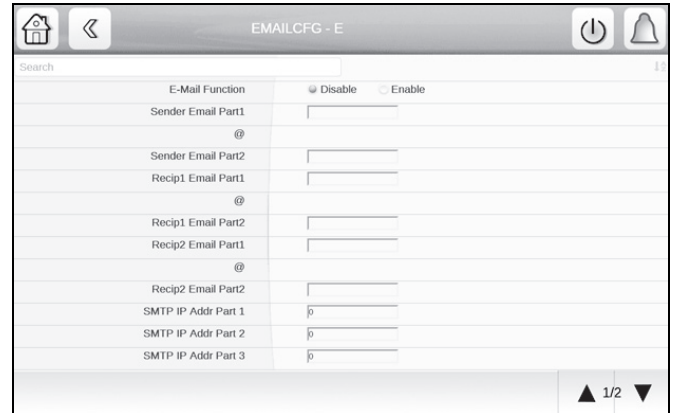

**Fig. 37 — Temp Sensor Calib Screen**
5. In the Temp Sensor Calib screen, enter the temperature offset for the appropriate sensor as calculated in Step 4. See Fig. 37.